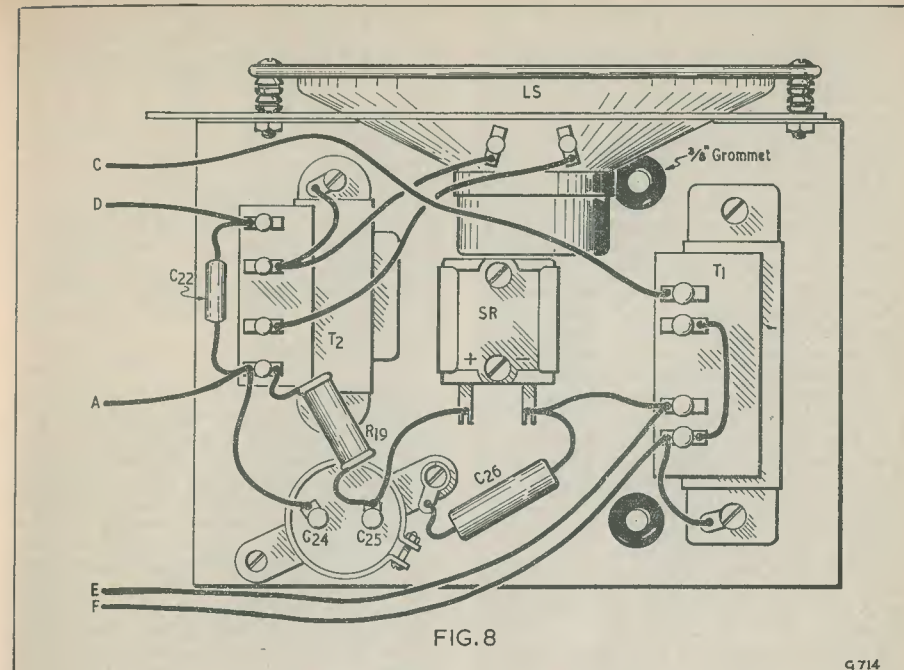

FIG. 8
Refer to Fig. 8. All leads in the power unit are insulated with sleeving.
42. Mount into position the 6.3V heater transformer T_1 using 4BA x $\frac{1}{4}$ in bolts and nuts, fitting a 4BA solder tag under one bolt where indicated in Fig. 8.
48. Join the tag of C_{24} to the end tag of T_2 (see Fig. 8).
56. Connect two leads from LS (Fig. 8) to T_2 . Earth one of these tags (T_2) to the adjacent earth tag.
57. Join leads A-C-D-E and F from the printed circuit board to the power unit assembly as shown in Fig. 8.